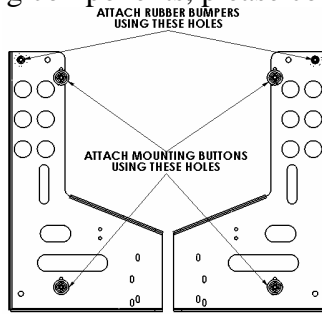
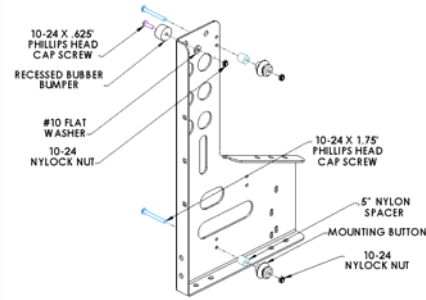

Figure 2
Figure 3
1. Using a 10-24 Phillips head cap screw inserted from back side of bracket, .5" thick Nylon Spacers and Nylock nut, secure mounting button, to bracket (four places) (see Figure 2 & Figure 3).
2. Using a 10-24 x .625" Phillips head cap screw, #10 flat washer and Nylock nut, attached recessed rubber bumpers to top outside holes of each bracket (see Figure 2 & Figure 3).